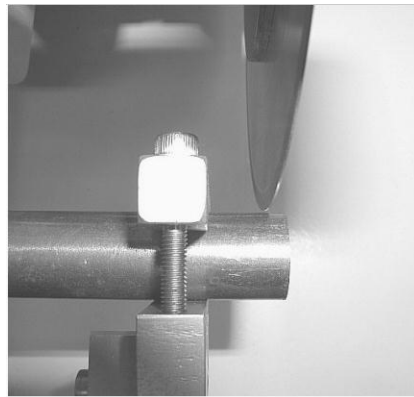

Figure 10 Blade almost touching the specimen
3. Turn the hand crank counter-clockwise to bring the blade forward until it is just behind the and almost touching the specimen (see Figure 10).
- b. Turn the hand crank counter-clockwise to bring the blade forward until it is just behind the and almost touching the specimen (see Figure 10).